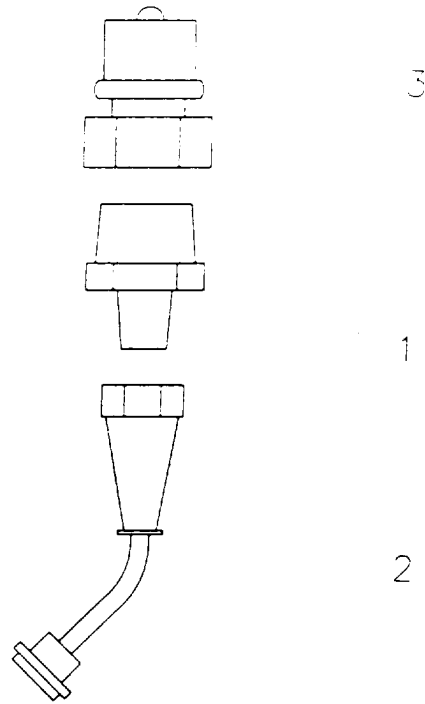

Figure 4-11. M-1 Extinguisher or Schrader Valve Adapter Repair
- c. Holding nipple securely, unscrew pipe tee (2) and lay aside for disposal.
- a. Check new pipe tee (2) for defects.
- b. Wrap one layer of antiseize tape (item 3, Section II, Appendix F) around nipple, Halon cylinder adapter, and gauge threads.
- c. Holding nipple, screw pipe tee (2) onto nipple and tighten securely.
- d. Holding pipe tee (2) securely, screw Halon cylinder adapter into pipe tee and tighten.
- e. Holding pipe tee (2) securely, screw gauge into pipe tee and tighten.
**4-19 FIRE EXTINGUISHER ADAPTER ASSEMBLIES REPAIR (Refer to Figure 4-11 and 4-12)**
**4-19.1 M-1 Extinguisher or Schrader Valve Adapter. (Refer to Figure 4-11)**
- a. Holding nipple (1) securely, unscrew high pressure connector (2) and place aside for disposal.
- b. Wrap nipple (1) threads with one layer of antiseize tape (item 3, Section II, Appendix F).
- c. Holding nipple (1) securely, screw new high pressure connector (1) on nipple and tighten securely.